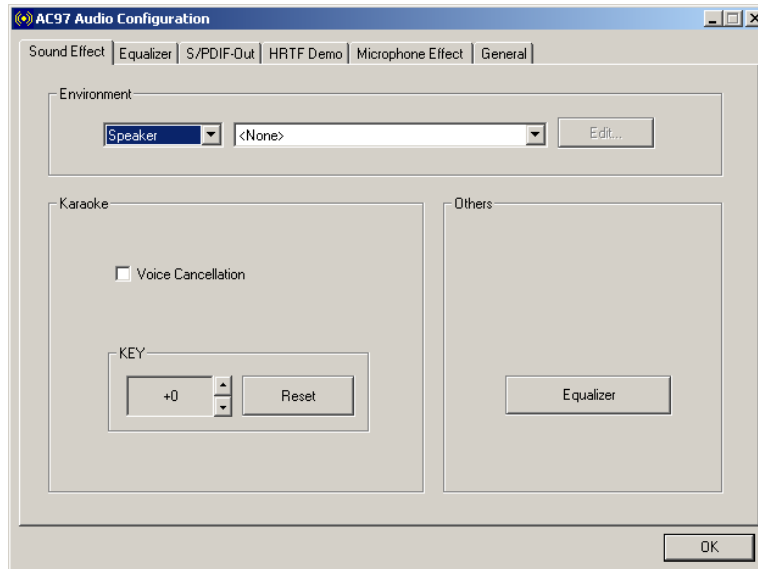

Figure D-3: Sound Effects Manager (ALC655)
Step 3: The sound effect manager appears (Figure D-3).
The Sound Effect Manager shown in **Figure D-3** is for the RealTek ALC655 audio CODEC. Different CODECs may have different sound manager appearances.
The **Sound Effects Manager** enables configuration of the items listed below. To configure these items click the corresponding menu tab in the **Sound Effects Manager** (Figure D-3).